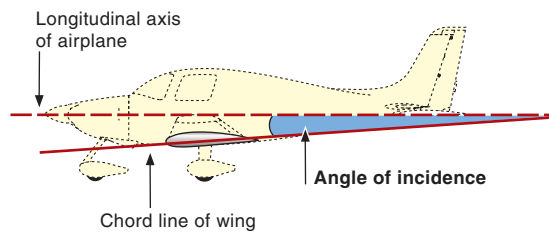

Figure 4-27 The angle of incidence is fixed during design and construction.
2. Do not confuse angle of attack with *angle of incidence*—the angle at which the wing is mounted onto the fuselage, relative to the longitudinal axis. The angle of incidence is fixed at construction (figure 4-27), while the angle of attack changes in flight.